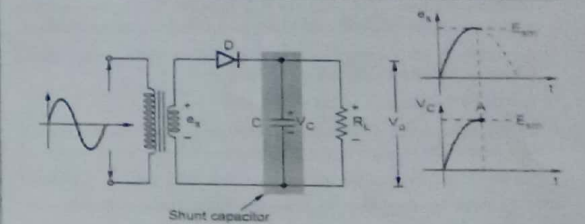

Fig. Q.30.1 Shunt capacitor filter with HWR
- Ans.:** • The circuit diagram of half wave rectifier with shunt capacitor filter is shown in the Fig. Q.30.1.